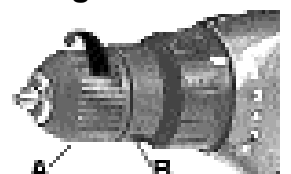

fig. 3
- 1. Open the chuck by holding the rear collar (fig.3 'B') and turning the front chuck collar (fig.3 'A') See direction arrow on chuck.